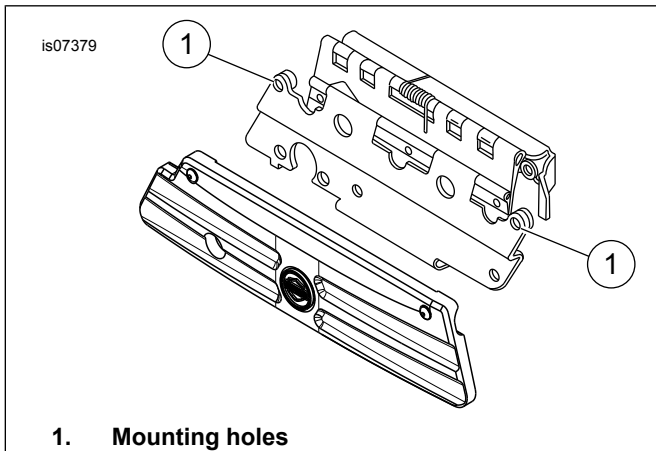

Figure 3. Align Mounting Holes
1. See Figure 3. Align the two mounting holes and the lock hole on the faceplate with the corresponding holes in the latch assembly.